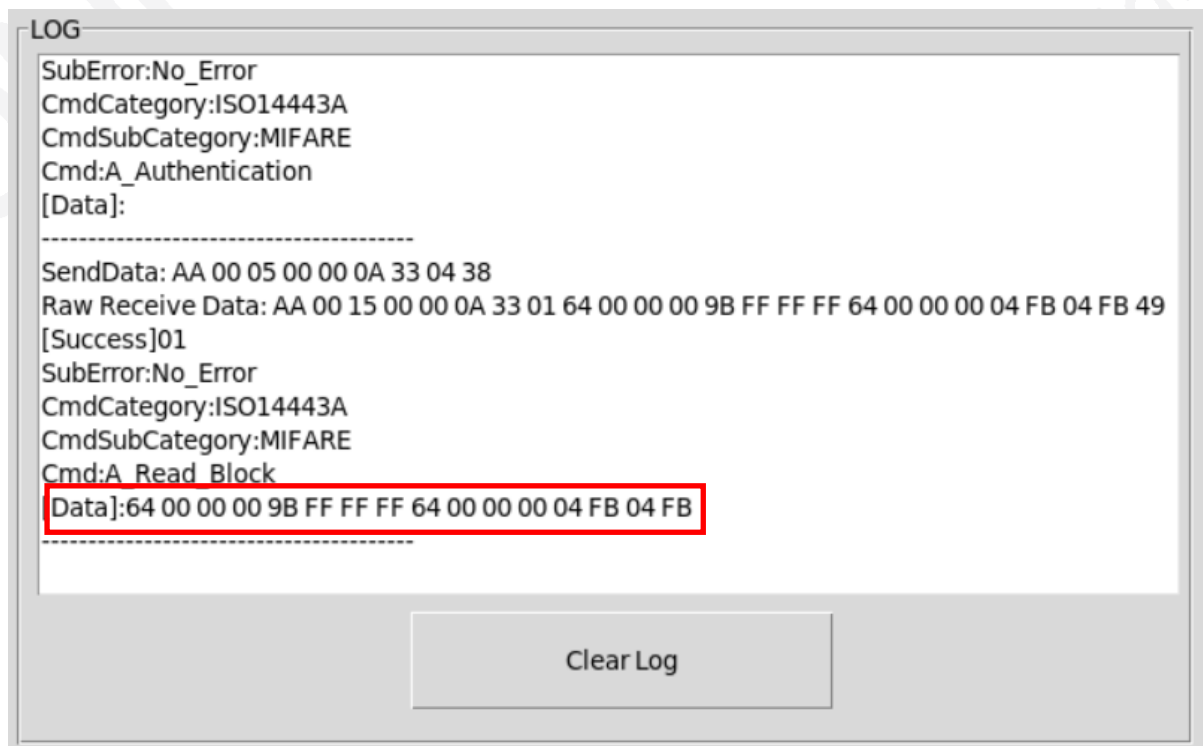

Figure 6.4-1 Read data LOG Block text view
- Result of response will show at LOG Block text view, as shown in Figure 6.4-1.